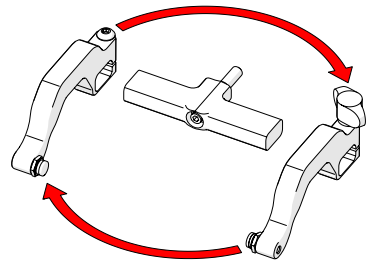

Fig. 57 - Reverse position around yoke
4. Position the removed arms to the opposite sides of the yoke (Fig. 57).